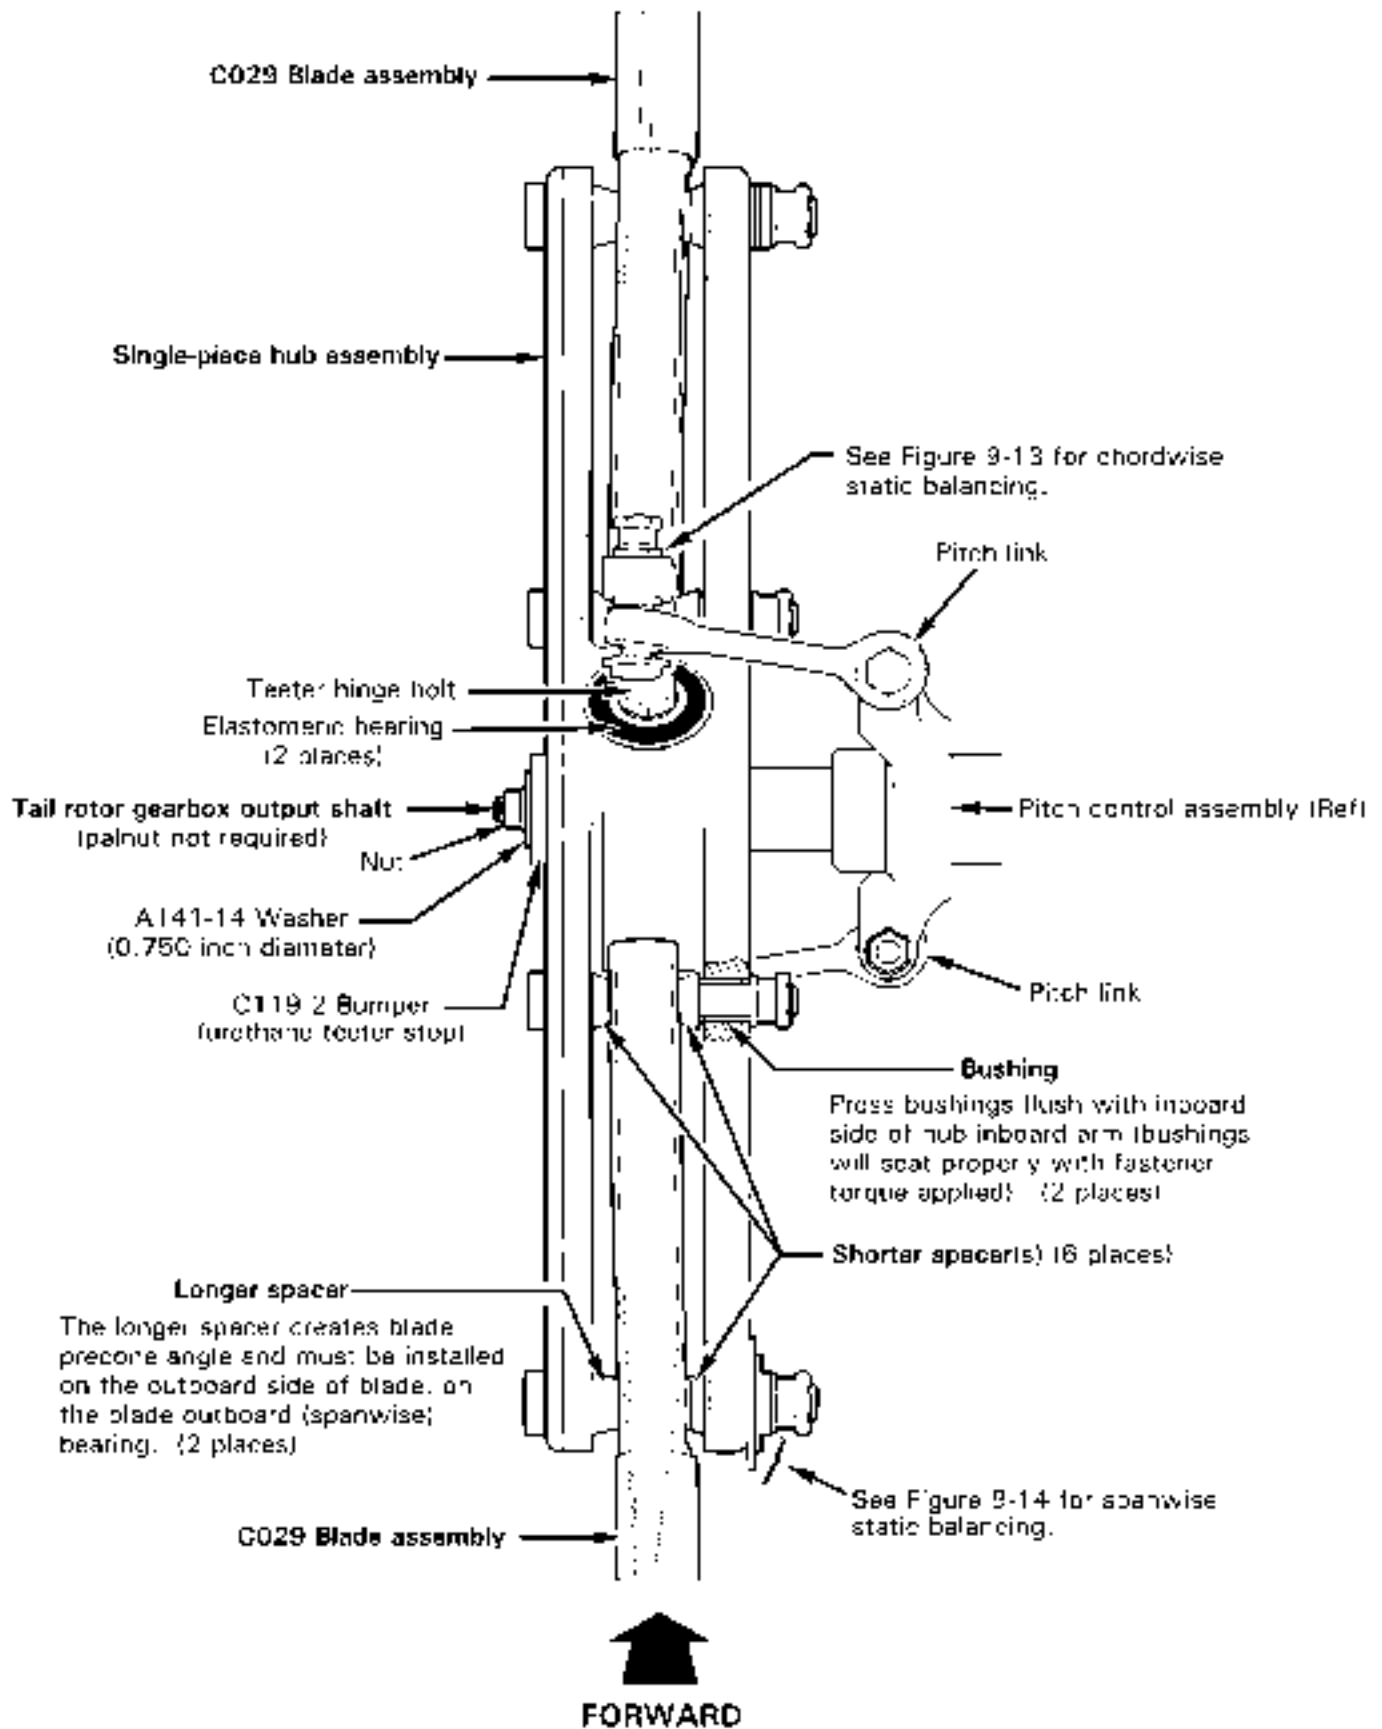
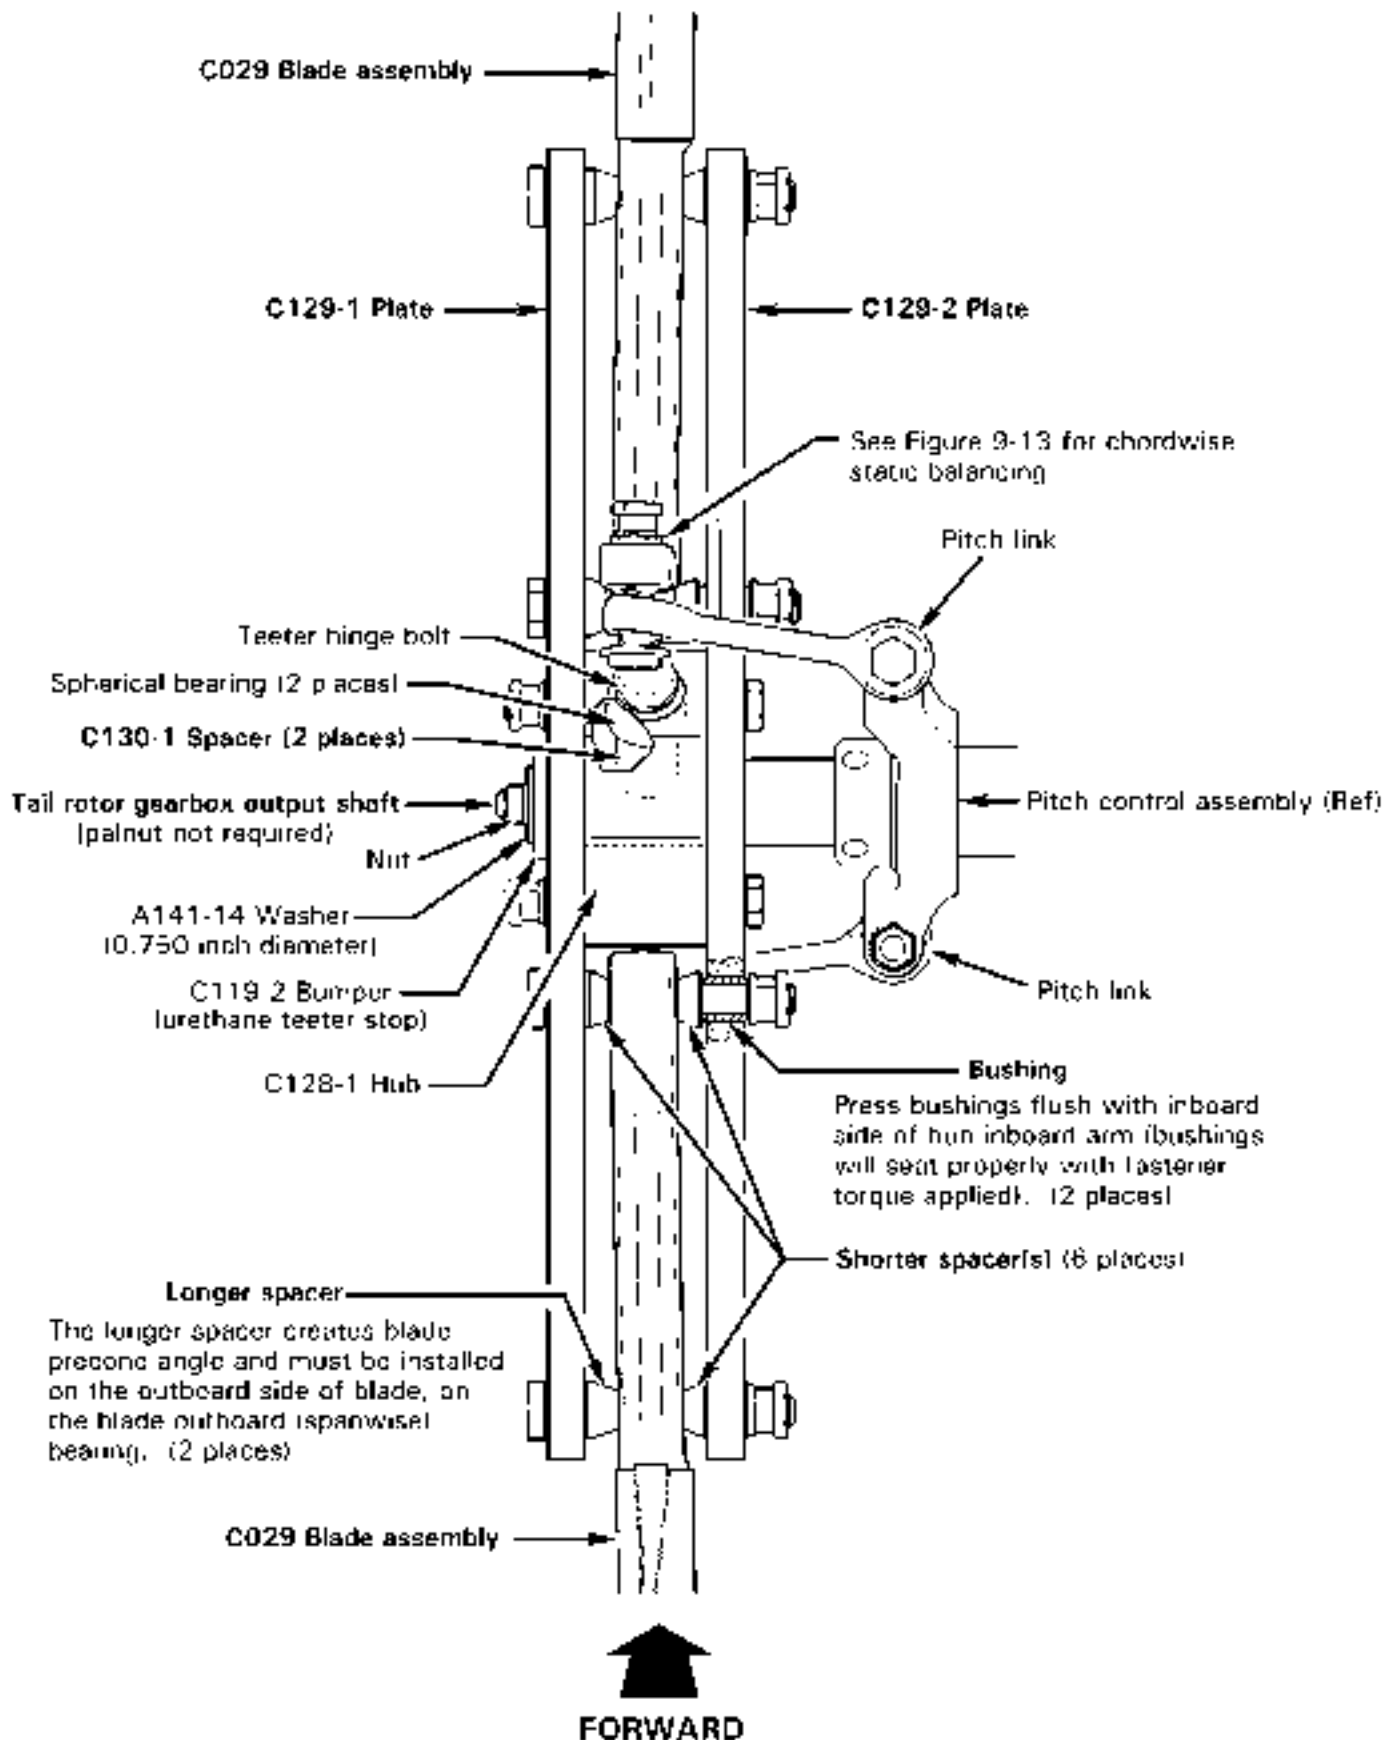

FIGURE 9-11 SINGLE-PIECE HUB TAIL ROTOR ASSEMBLY INSTALLATION
FIGURE 9-12 THREE-PIECE HUB TAIL ROTOR ASSEMBLY INSTALLATION
1. Refer to Figure 9-11 or Figure 9-12. Mark or tag each pitch link and corresponding blade for reinstallation. Remove hardware securing pitch links to tail rotor blades, noting hardware removed.
1. Refer to Figure 9-11. Position tail rotor assembly on tail rotor gearbox output shaft, matching tail rotor blades to corresponding pitch links. Verify tail rotor is installed for clockwise rotation when viewed from left side of aircraft.
2. Refer to Figure 9-12. Position C130-1 spacers inside hub and install tail rotor assembly on tail rotor gearbox output shaft, matching tail rotor blades to corresponding pitch links. Verify tail rotor is installed for clockwise rotation when viewed from left side of aircraft.
2. Refer to Figure 9-11 or Figure 9-12. Mark three-piece tail rotor hub assembly across the hub and plates for reinstallation.
2. Refer to Figure 9-11 or Figure 9-12. If removed, apply light coat of approved primer (see Section 1.400) to outer surface of bushings; while primer is wet, press bushings flush with inboard side of hub inboard arm (bushings will seat properly with fastener torque applied).